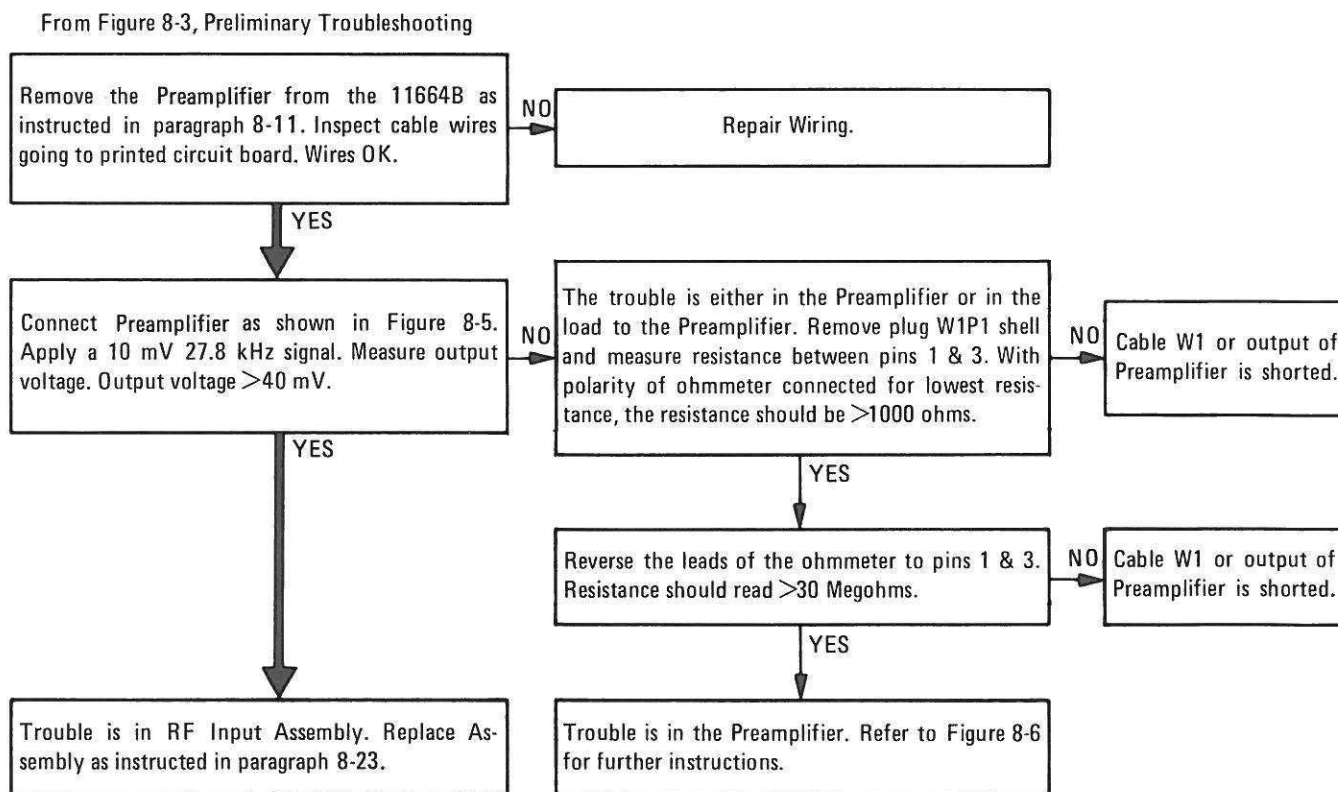

Figure 8-4. Isolating Trouble to A2 RF Input Assembly or A1 Preamplifier
- b. Isolate the trouble to either the RF Input Assembly or the Preamplifier using the procedures in Figure 8-4.